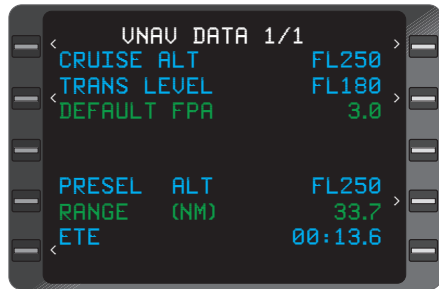

Figure 2-46
Manually entered cruise altitude in feet or Flight Level (FL). Any altitude entered greater than the transition level is converted and displayed as flight level (rounded off to the nearest hundred feet). An altitude less than 1000 feet must be entered with a preceding zero. (Figure 2-46)
Transition Level used to determine the altitude at which the system converts altitudes to Flight Levels. This field defaults to **FL180** if the pilot does not enter a value. (Figure 2-46)
The FPA defaults to the 3.0 unless it is manually entered. The default descent Flight Path Angle can be manually entered in degrees and tenths (0.1 to 6.0 range) (Figure 2-46). **DEFAULT FPA** is used to calculate **#TOD** to the first altitude constraint on the Active Flight Plan. However an FPA must be entered on the VNAV waypoint page to establish a **PATH DESCENT** and for Vert Dev or vertical deviations to be valid.
If configured, Preselected Altitude input from system, in feet or Flight Level. (Figure 2-46)
If configured, Range to Pre-selected Altitude in nautical miles and tenths (0.0 to 999.9 range). (Figure 2-46)
If configured, the estimated time enroute to the Pre-selected Altitude in hours, minutes and tenths. (Figure 2-46)